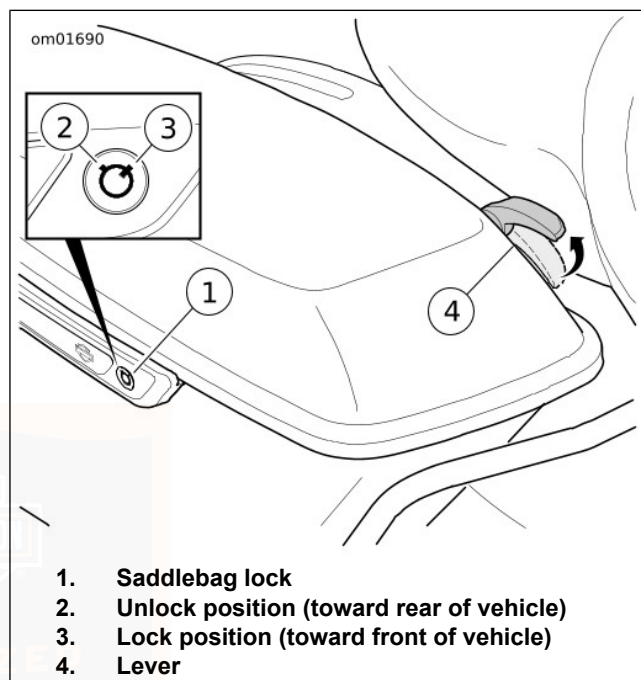

Figure 55. Saddlebag
1. See Figure 55. Unlock saddlebag lock with the key.
1. See Figure 55. Close the saddlebag lid.
1. See Figure 55. Open the saddlebag.